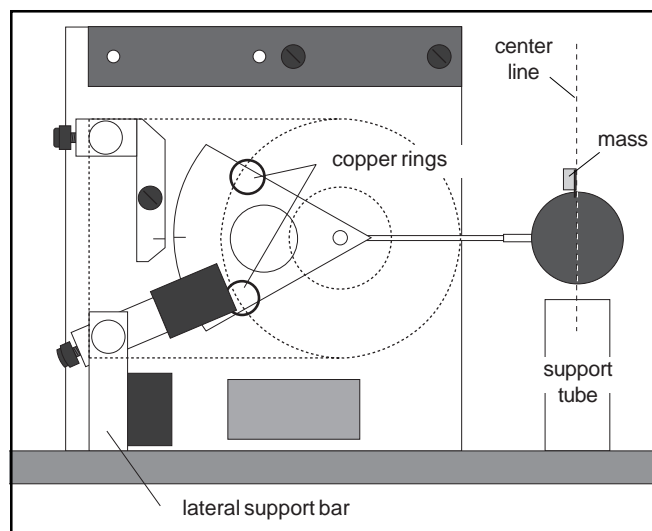

Figure 7. Calibrating the Torsion Balance
- ① Carefully turn the Torsion Balance on its side, supporting it with the lateral support bar, as shown in Figure 7. Place the support tube under the sphere, as shown.
- ② Zero the torsion balance by rotating the torsion dial until the index lines are aligned. Record the angle of the degree plate in Table 2.
- ③ Carefully place the 20 mg mass on the center line of the conductive sphere.
- ④ Turn the degree knob as required to bring the index lines back into alignment. Read the torsion angle on the degree scale. Record the angle in Table 2.
- ⑤ Repeat steps 3 and 4, using the two 20 mg masses and the 50 mg mass to apply each of the masses shown in the table. Each time record the mass and the torsion angle.
- ⑥ Complete the table as follows to determine the torsion constant for the wire: